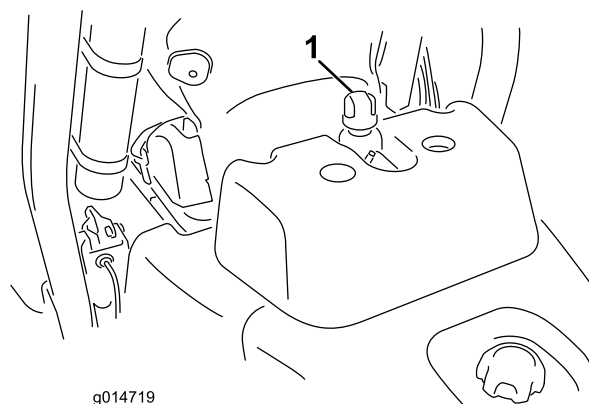

Figure 31
2. Remove the cap from the reservoir (Figure 31).